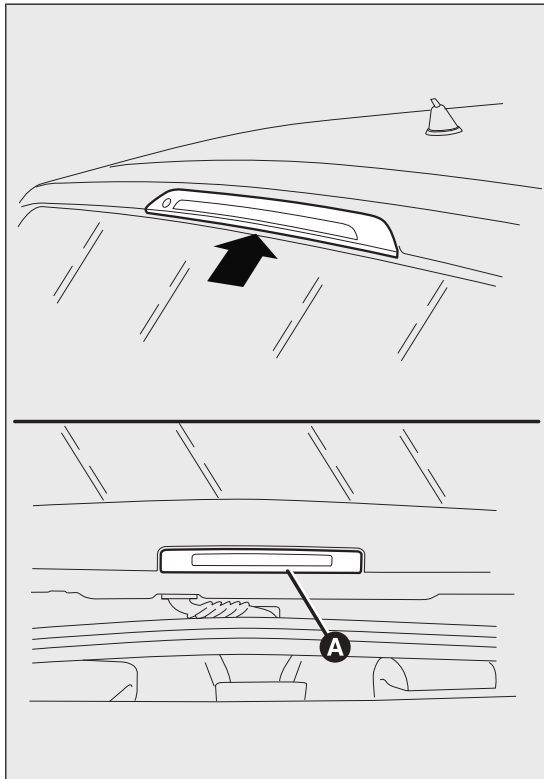

fig. 152
- remove the cover A fig. 152;
- refit the cover A fig. 152 and close the luggage compartment.